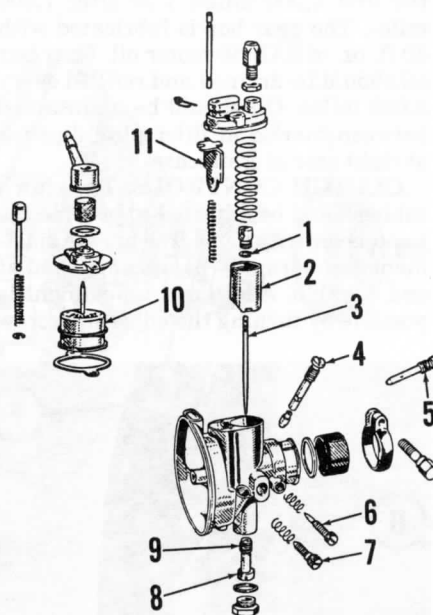

Fig. BE1-1—Exploded view of Del'Orto carburetor. Idle mixture is adjusted at needle (6).
CARBURETOR. Del'Orto ME 18 BS carburetor is shown in Fig. BE1-1. Idle speed is adjusted at screw (7). Idle mixture needle (6) initial setting is 1 turn open. Turning the needle counter-clockwise leans the mixture. Clip (1) should be in center (2nd) notch of needle (3). Main jet (8) standard size is 76.